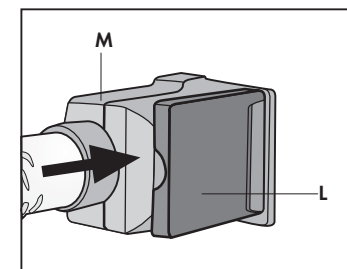

Fig. 9
- Close the flap (L) so that it bears against the side of the quick connection (M) (Fig. 9).